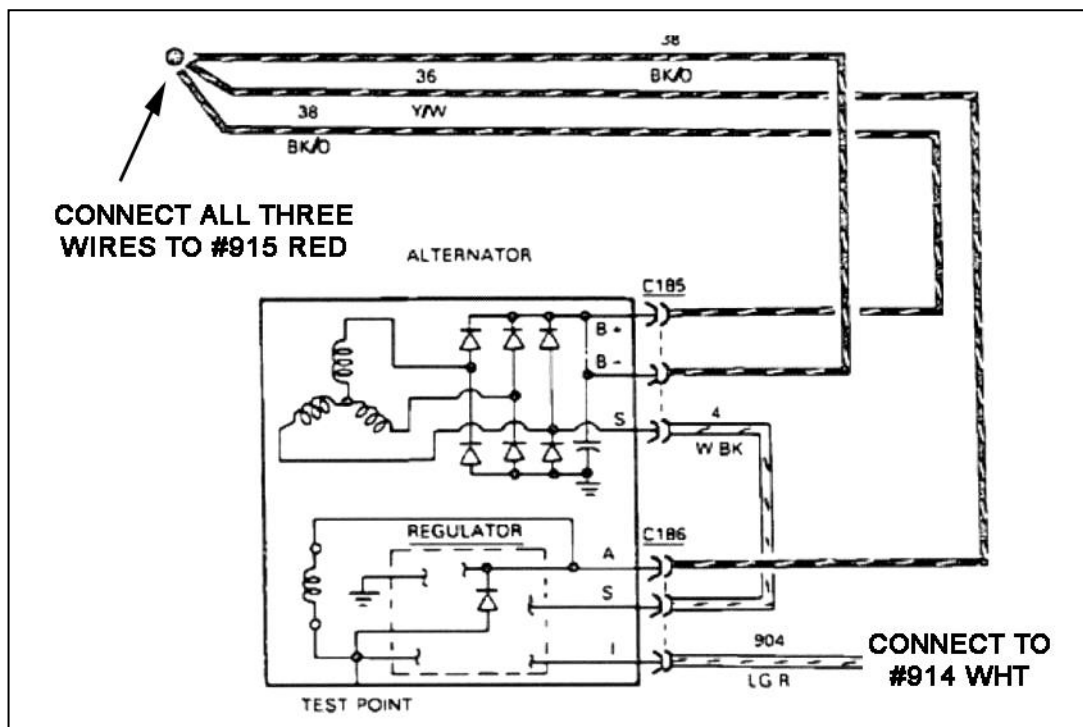

Figure 8-1C Ford 2G Internal Regulator Alternator
- 8.1.6** Connect ENGINE SECTION wire #915 RED to three wires as noted in **Figure 8-1C**.
- 8.1.7** Connect ENGINE SECTION wire #914 WHT to the Light Green/Red stripe wire as noted in **Figure 8-1C**.